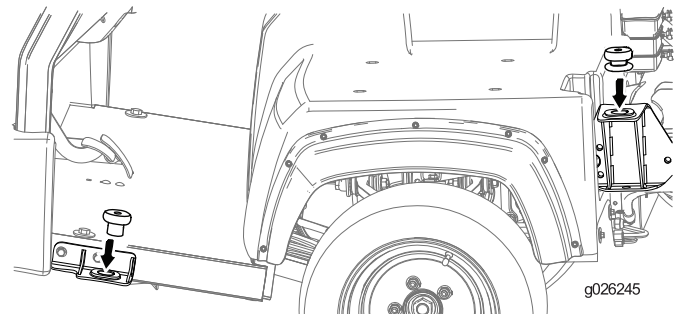

Figure 23
5. Install the 4 rubber isolator mounts as shown in Figure 23.